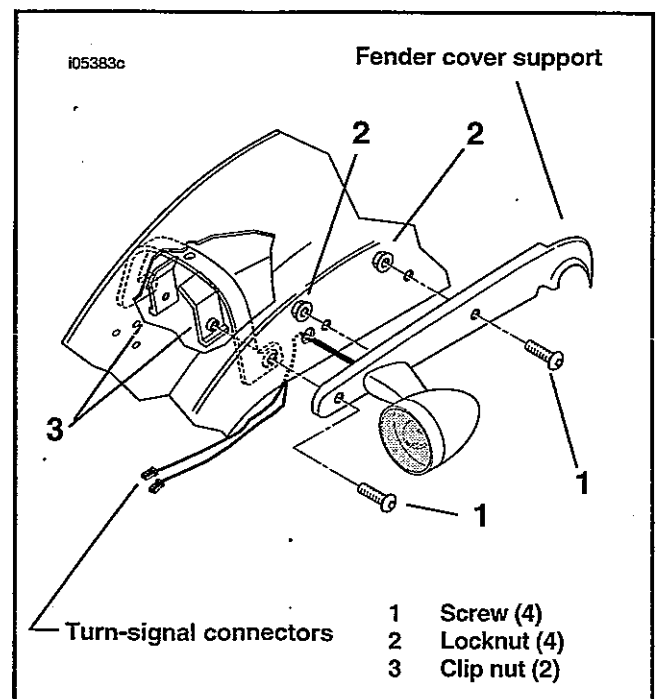

Figure 2. Rear Fender Support Removal
5. See Figure 2. It is necessary to remove the taillight lens to access the Amp Multi-lock connector. Unplug the connectors for each turn signal and push them down and through the opening in the tail light and fender.
6. See Figure 2. Remove the front and rear button head screws (1), two locknuts (2) and under fender clip nuts (3) from the left and right rear-fender support covers. Discard all but two button head screws and two locknuts.